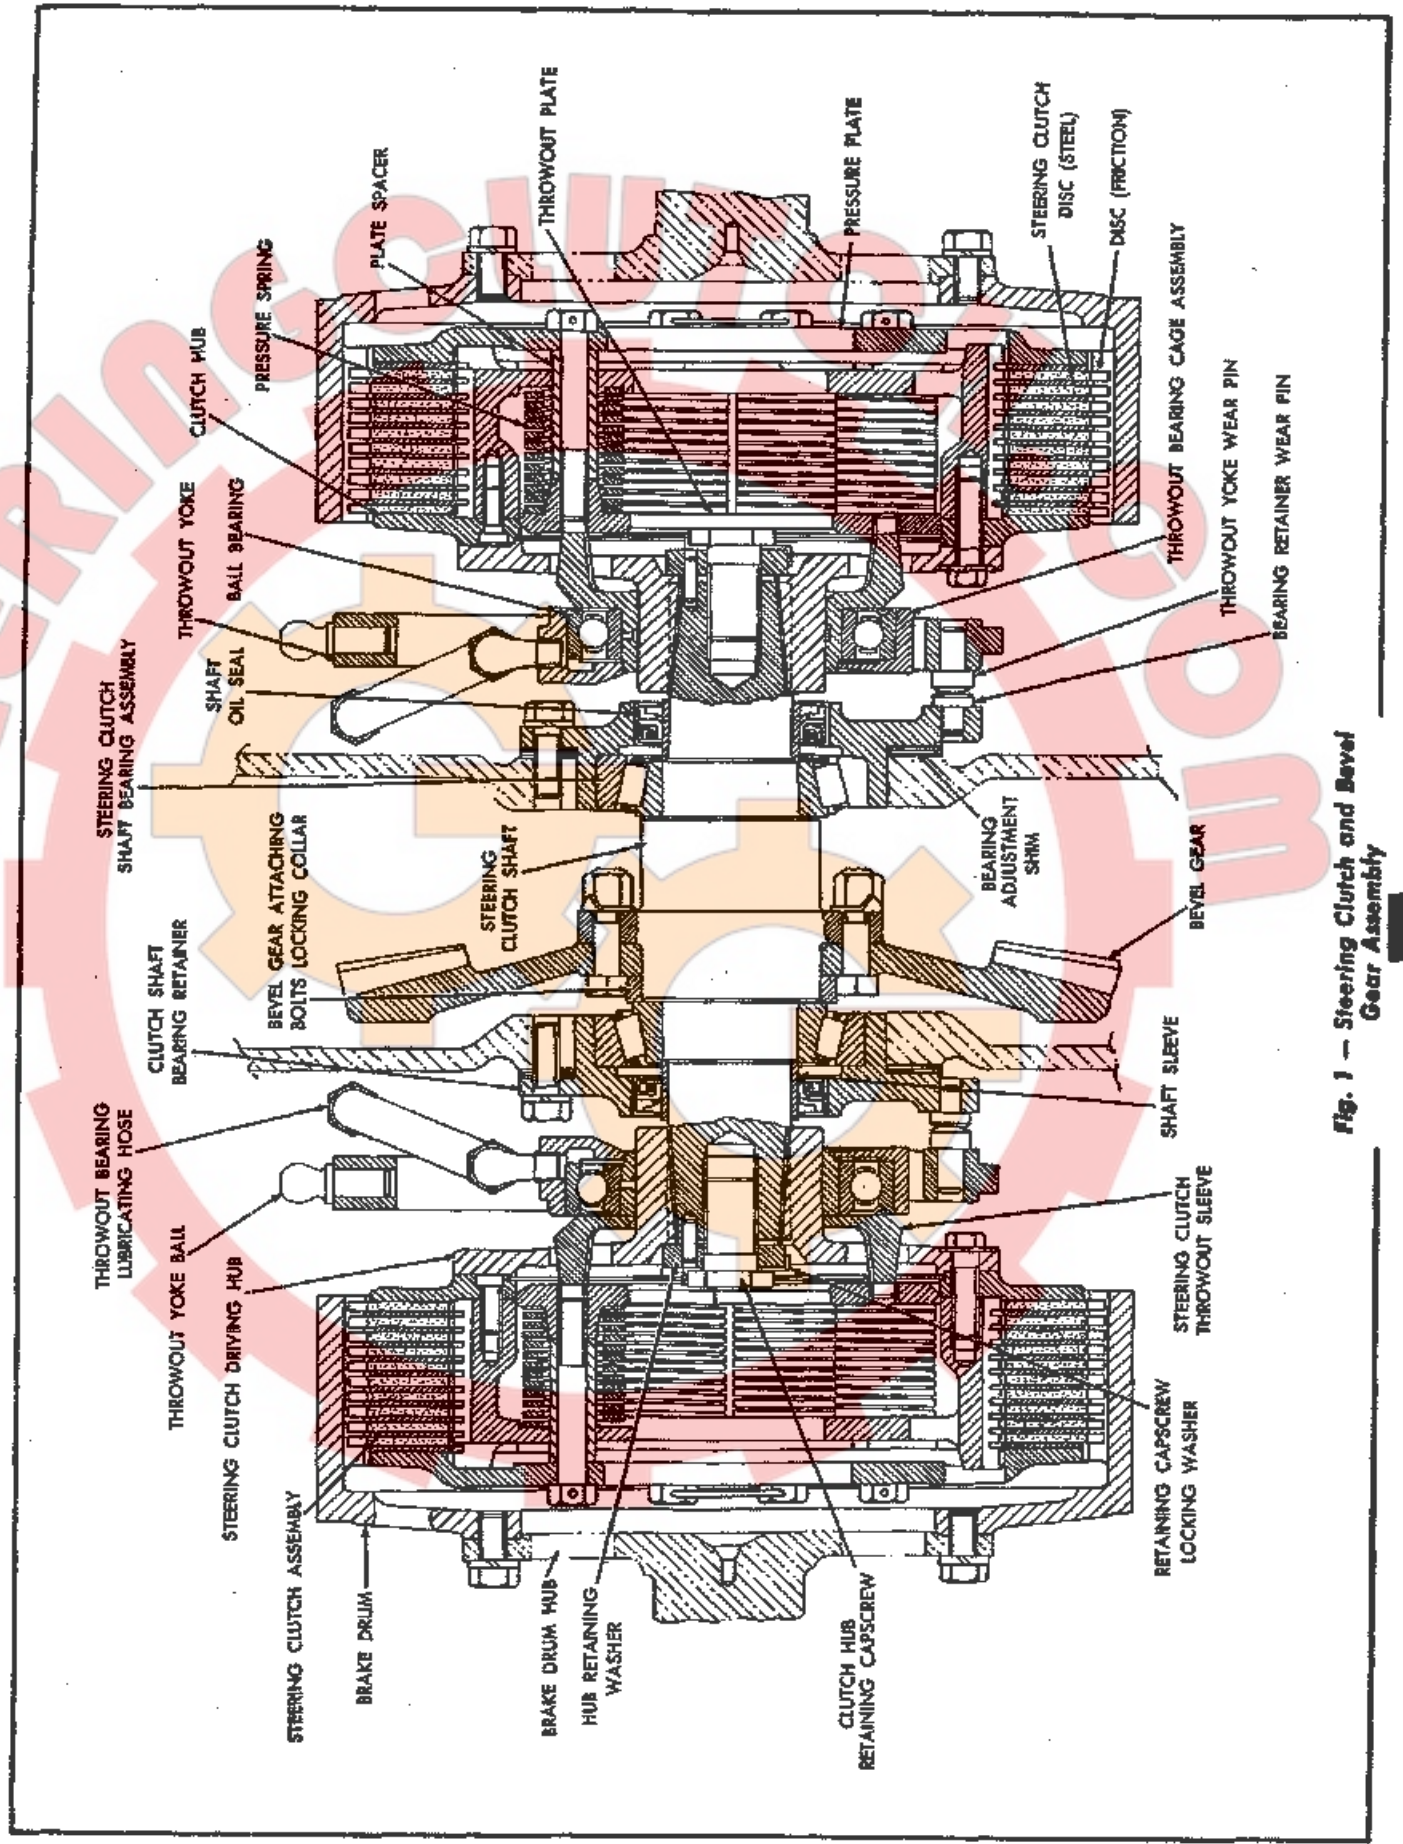

Fig. 1 -- Steering Clutch and Bevel Gear Assembly
- b. Turn the intermediate lever shaft (right shaft clockwise, left shaft counterclockwise) so that the clutch throwout yoke moves the throwout sleeve (Fig. 1) over and the sleeve is contacting the steering clutch throwout plate (Fig. 1).